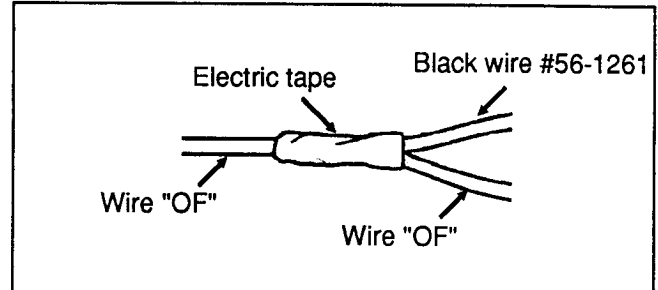

Figure 2
6. Strip (without cutting it) a length of 1/2" (13 mm) on wire "OF" in wiring and solder it to black wire #56-1261 (provided with kit). See figure 2.